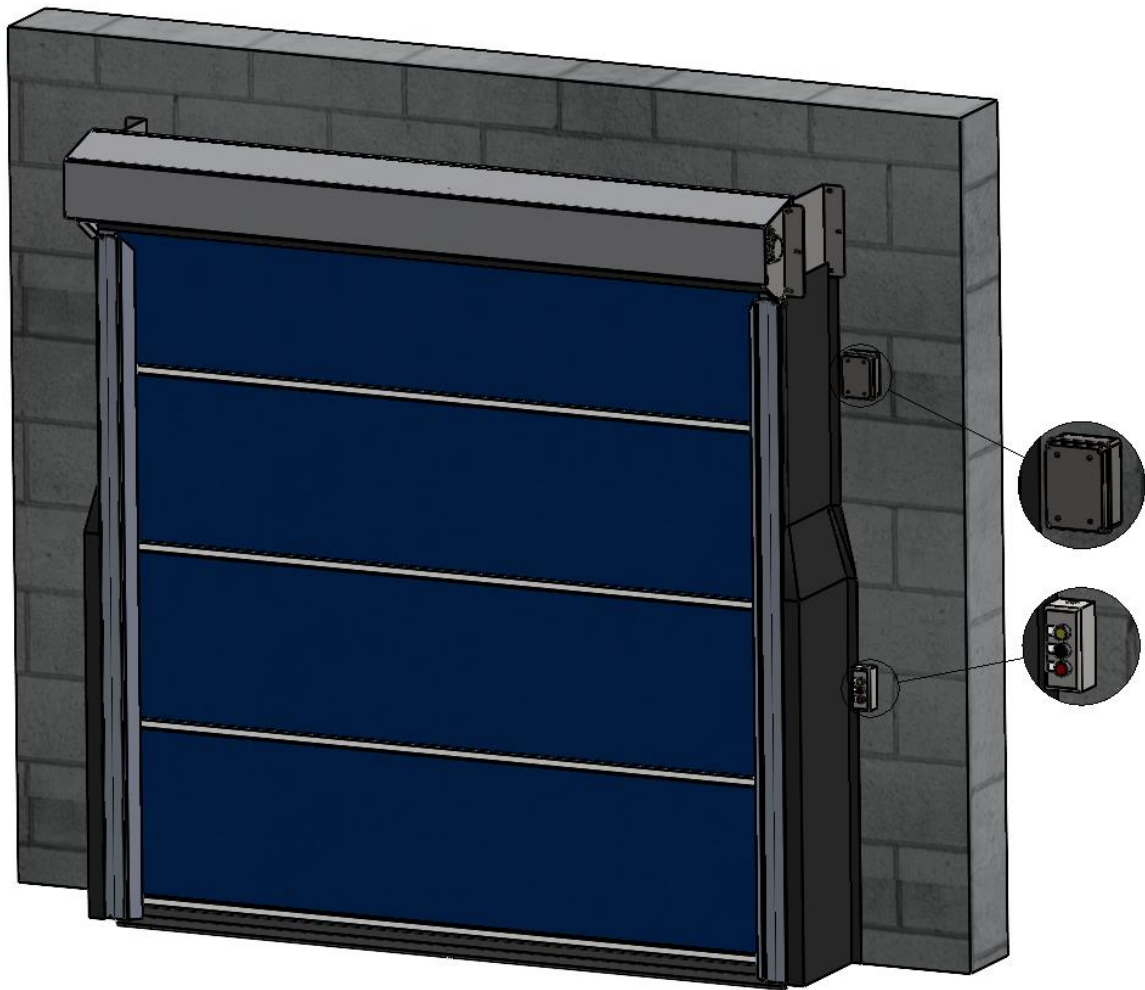

Figure 6 CONTROL BOX LOCATION
3. Have a qualified Electrician mount the Switch Control Box, route, and connect all wiring before applying power to the Door Assembly. (Figure 6 CONTROL BOX LOCATION)